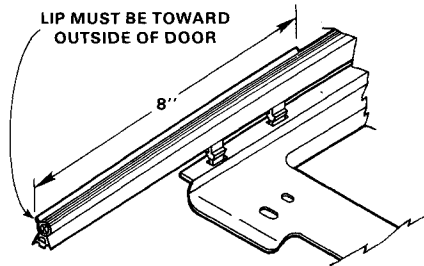

Figure 7
- Gasket is directional. The side lip that extends back 8" from each end of the gasket must be outside of door. See Figure 7.